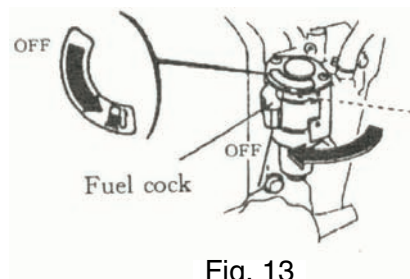

Fig. 13
3. Set the fuel cock to the OFF position (Fig. 13).